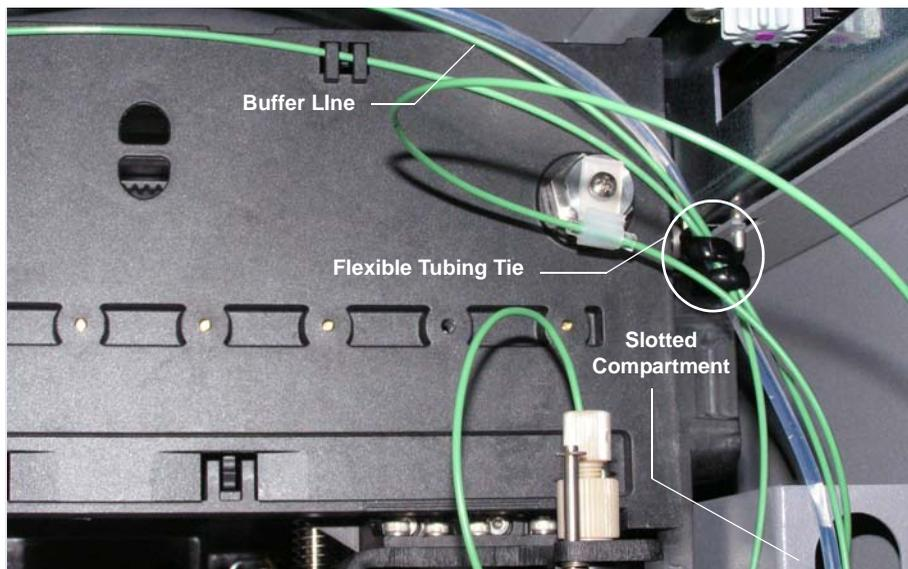

Figure 5-20. *Tubing Tie in Upper-Right Corner Inside the Dionex AS-AP (Dionex AS-AP Configured for Push Mode Shown)*
5. Remove the buffer tubing from the flexible tubing tie in the upper-right corner (see Figure 5-20) and then remove the coiled tubing from the slotted compartment below the tie (see Figure 5-20).